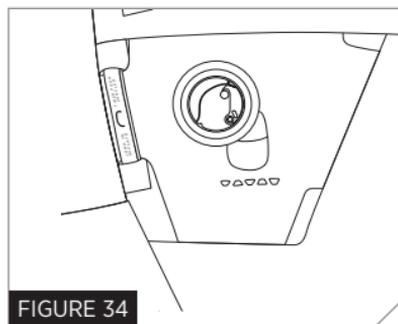

FIGURE 34
9. Ensure pull handle ends are secured into the stretch tabs (Fig. 34)